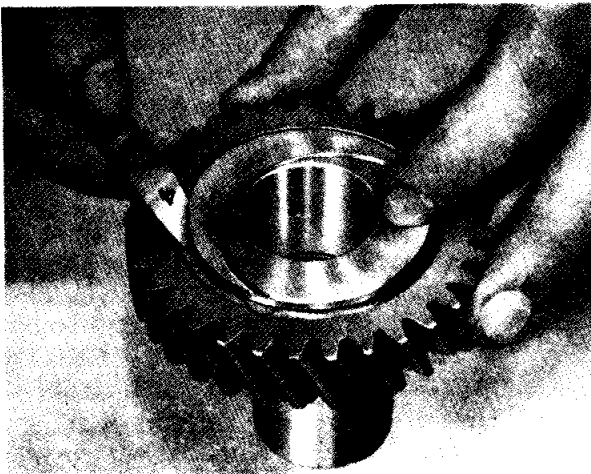
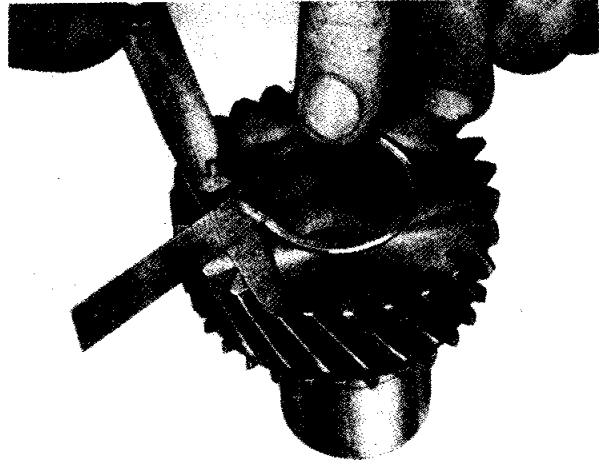

Fig. 17 Checking Second Mainshaft Constant Gear for End Float.
Fig. 18 Checking Third Gear Mainshaft Constant Gear for End Float.
- (ii) The 3rd speed constant gear float on its bush (.004"—.006"). (i) is checked as in Fig. 17, and (ii) as in Fig. 18.